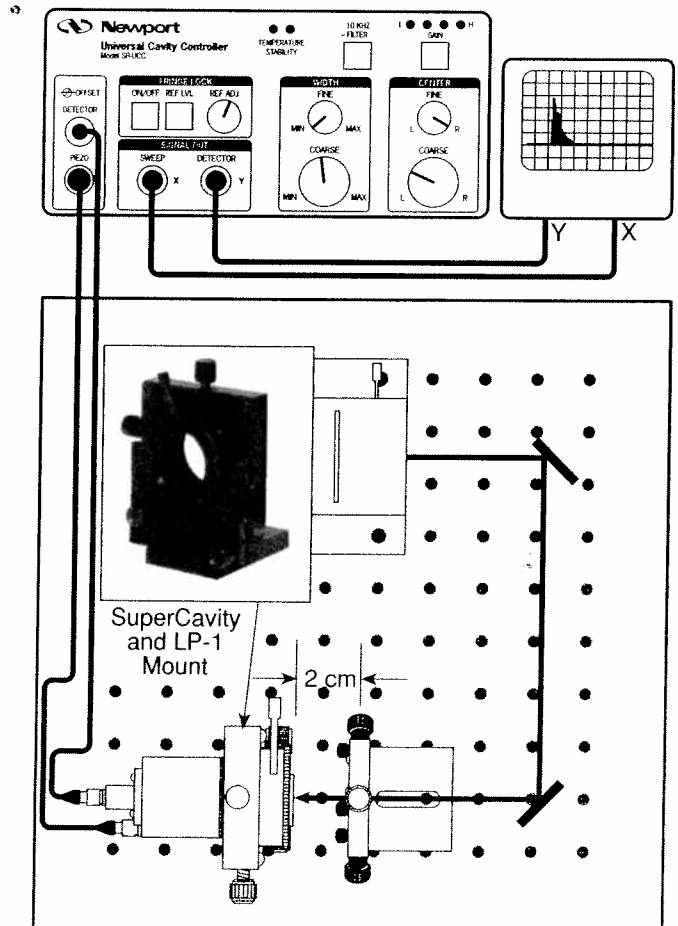

Fig. 8. – Install SuperCavity and LP-1 mount.
8. SuperCavity: Install the SuperCavity and the LP-1 mount onto the breadboard, as shown in Fig. 8. Adjust the z axis lever on the LP-1 mount to the midway position. Attach BNC cables from the SR-UCC controller to your X-Y scope.